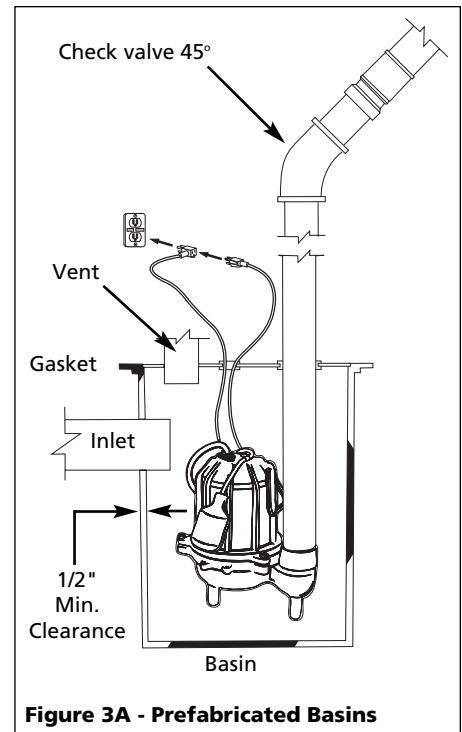

Figure 3A - Prefabricated Basins
6. CSE50T models are supplied with a detachable tether switch with a piggyback plug (see figure 3A). The length of the tether (distance of cord from float to clamp) should not be set shorter than 3-1/4 inches and should not be used in a basin smaller than 14 inches in diameter. If using a differential other than the factory setting, be sure when the pump shuts off at least 4 inches of fluid is left in the basin so the impeller remains submerged.